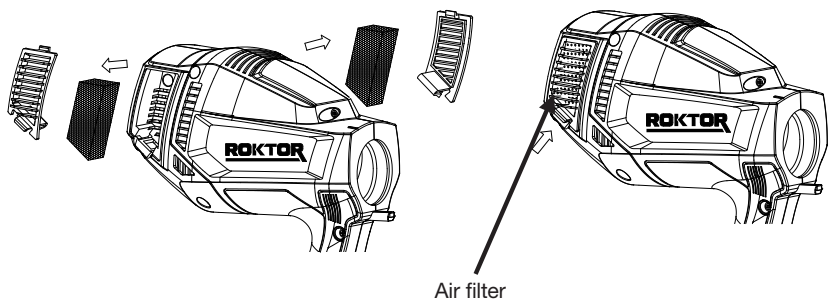

Fig. 11
1. Unplug the electric sprayer. Remove the filter cover by hand. See Fig. 11